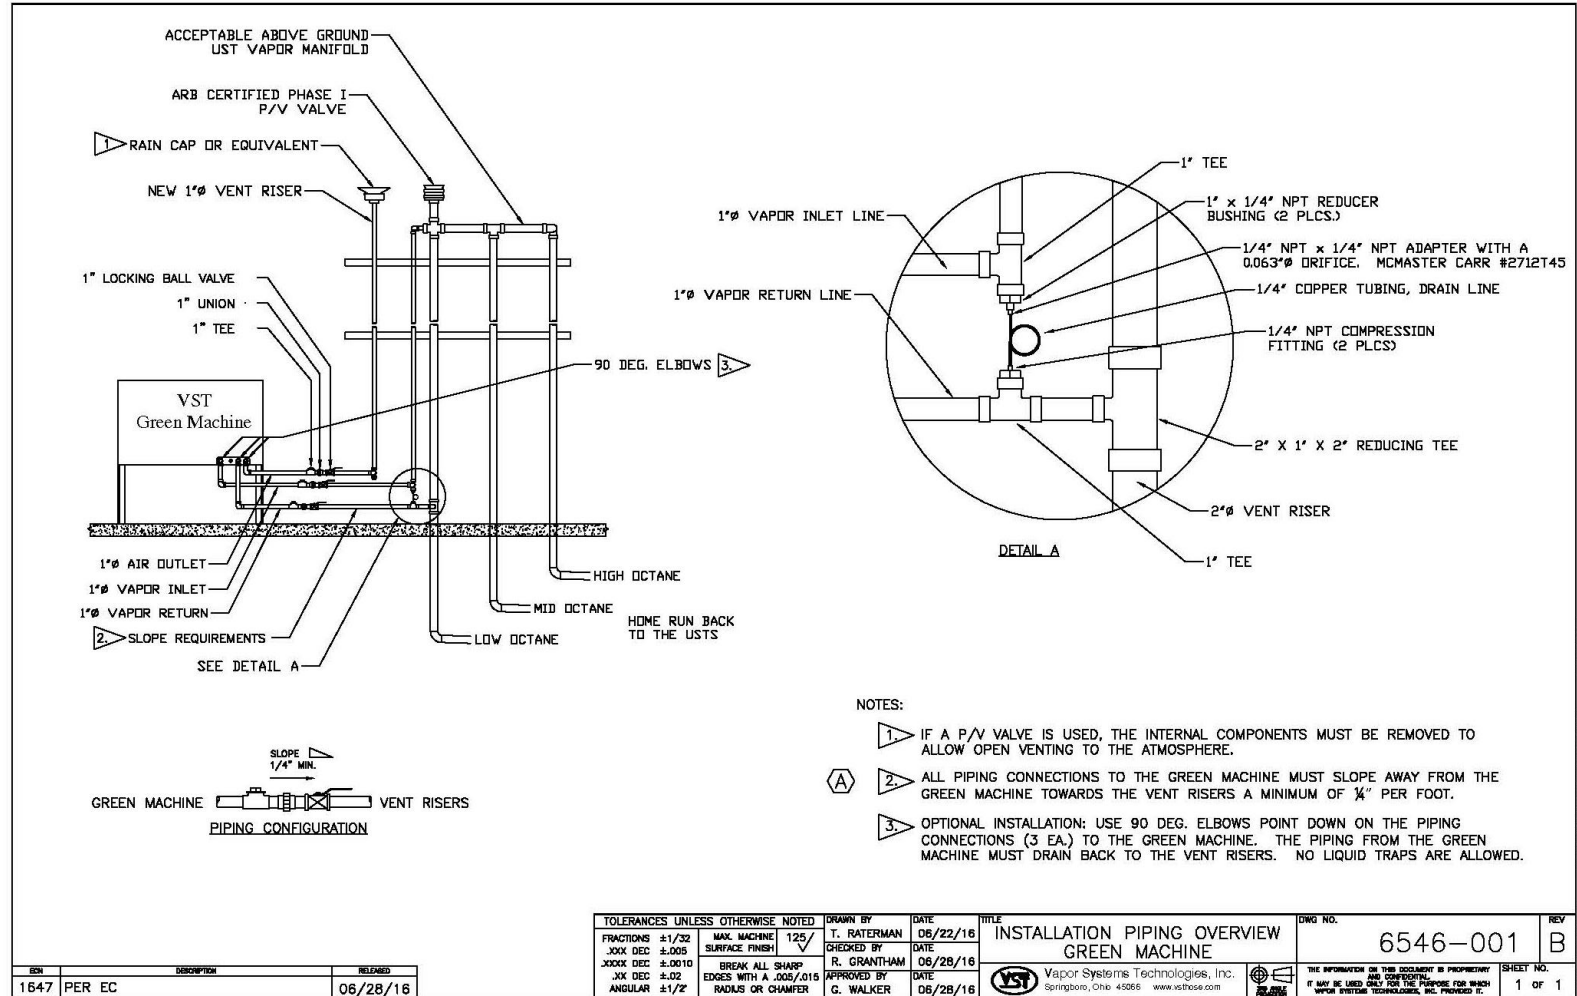

Figure 9-36: Vapor Piping Overview
1. At the GREEN MACHINE, remove the locks from the three ball valves, close the three valves, and remove a cap from one of the tees. (Only one open tee is required for this test.) **See Figure 9-36.**